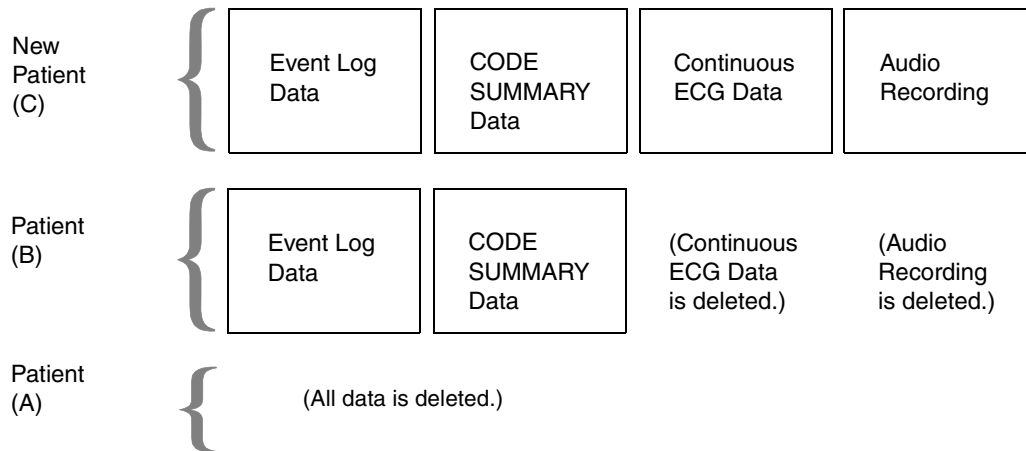

Figure 4-3 Data stored when the AED stores a new patient record
- The AED stores all data for the newest patient record, Patient C (refer to Figure 4-3). Patient C is now the Current Patient.